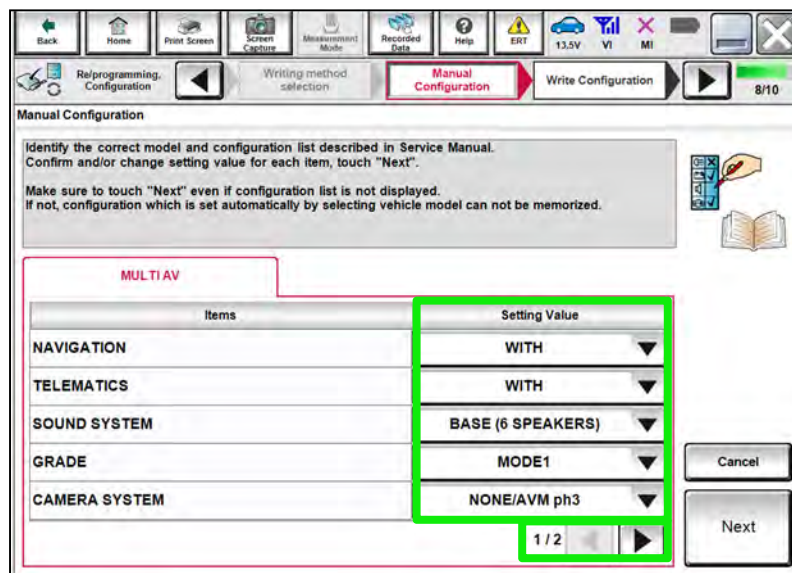
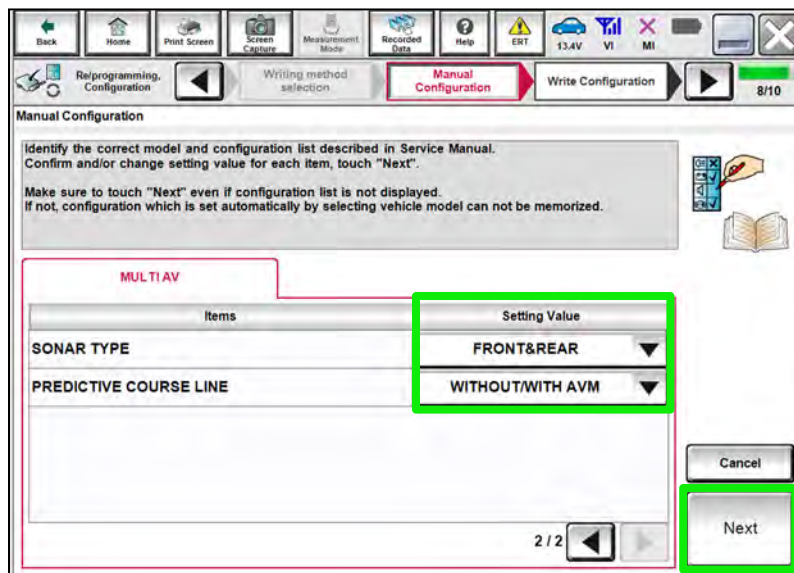

Figure 41
Figure 42
- The selections shown in Figure 41 and Figure 42 may not reflect the features of your vehicle.